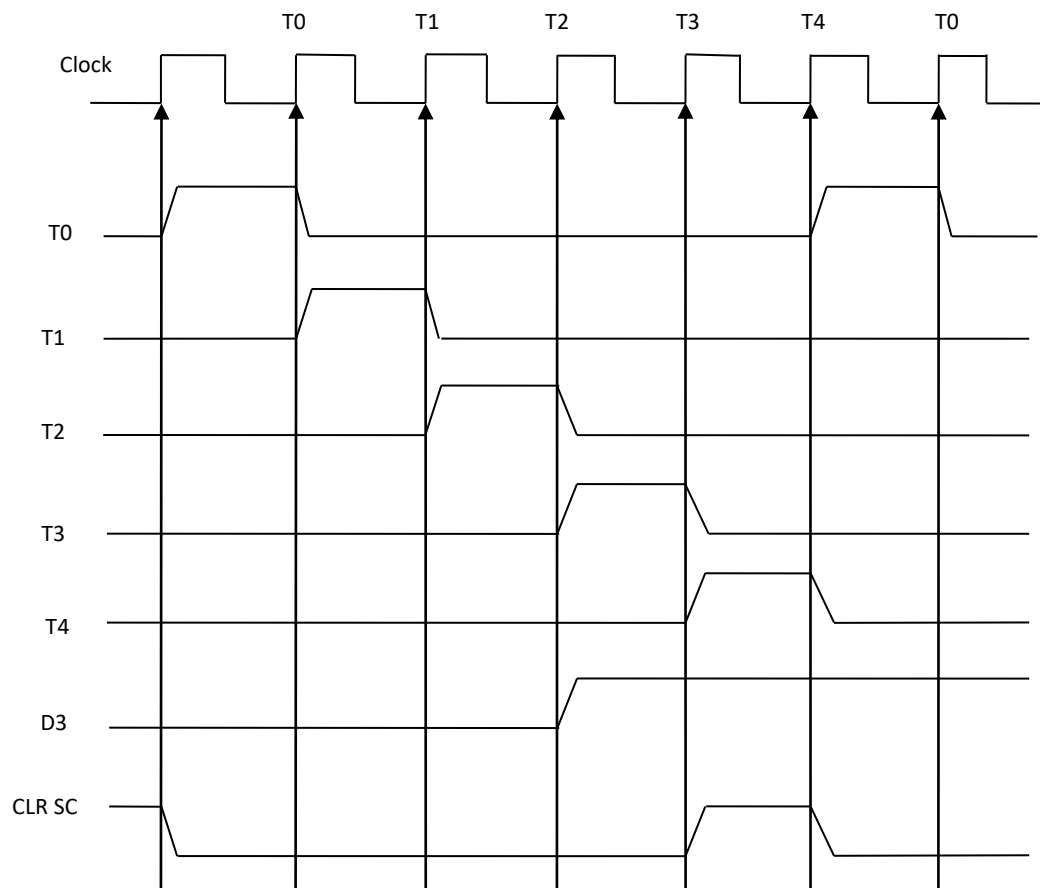

Figure 2.8: Example of control timing signals
- The timing diagram shown in figure 2.8: the time relationship of the control signals.